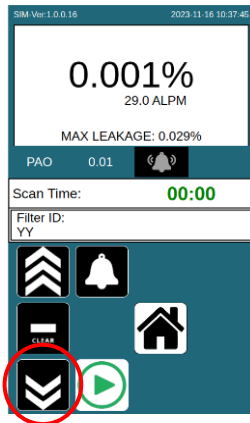

Figure 10. Downstream key
Step 3. For a Quick Scan, press the Downstream key (Figure 10) to begin scanning. Data is not saved.